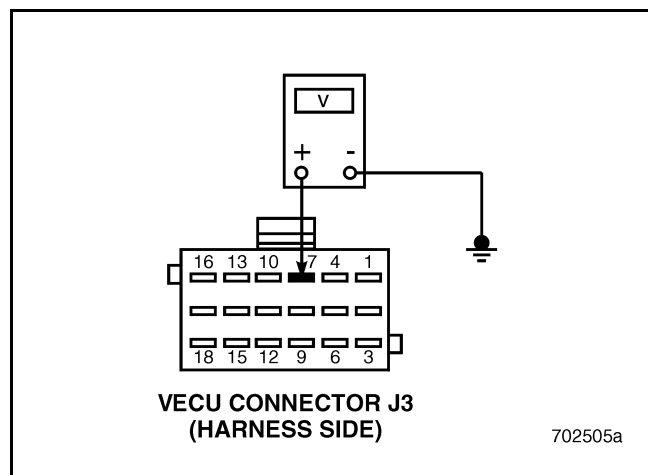

Figure 589
4. Measure the voltage between VECU connector J3, pin 7 and a good ground (see Figure 589).